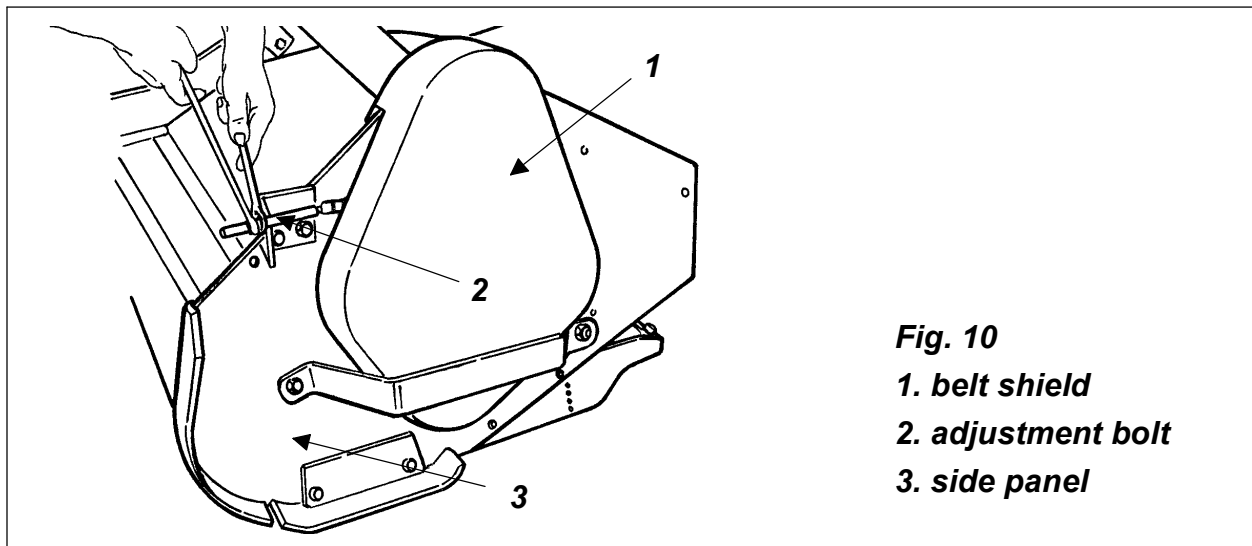

Fig. 10
To adjust the tension do the following (see fig. 10):
2. Remove the bolt adjustment rod (**see #2, fig. 10**).
1. Disengage the belt tensioner pulley by releasing the adjustment bolt (see #2, fig. 10)¹⁵.